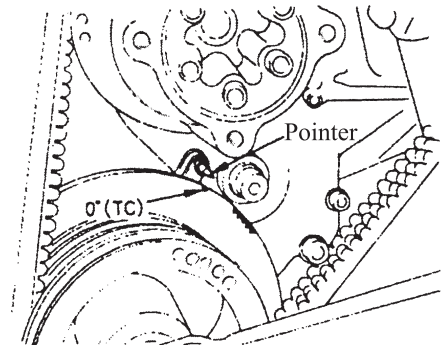

Fig. 1-11
(1) Turn the crankshaft clockwise and make the “TC” mark of belt wheel shock absorber coincide with the needle.
(2) Open the manhole cover and make sure the mark of the bottom plate and position of the needle. If the mark of the bottom plate coincides with the needle position, it indicates the upper dead point on the compression stroke of the first cylinder, adjust the clearances of the air gate with “△” and “※” as well. The clearance valve of the air gate: 0.4mm (When it is under cooling state, the air suction and exhaustion are of the same valve.) For details, please refer to Figs 1-11, 1-12, 1-13.